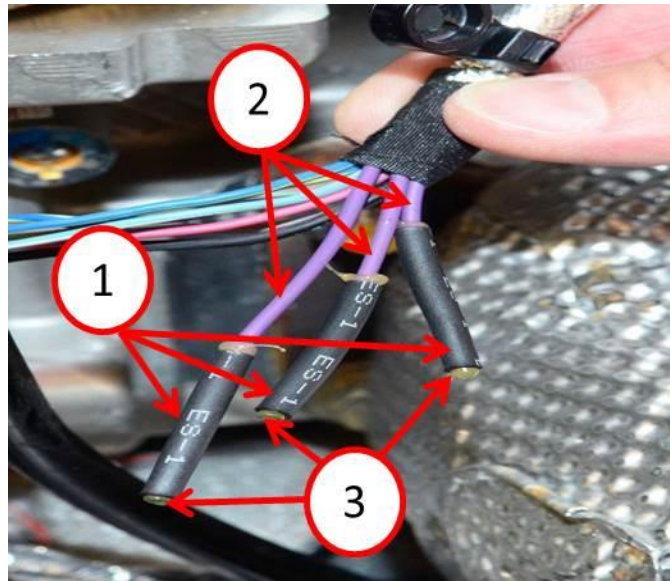

Fig. 5 Heat Shrink Tubing
10. Cut three equal lengths of heat shrink tubing and place tubing over three wire ends (Fig. 5).
11. Using a suitable heat gun, heat all tubing until it is tightly sealed and sealant begins to seep out of both ends of the tubing (Fig. 5).